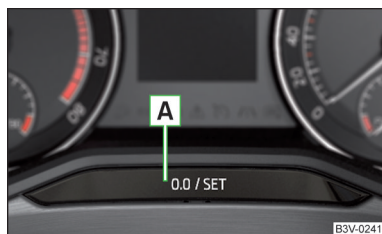

Fig. 39
› Press button **A** » Fig. 39 on page 49.
- › Press and hold the button **A** » Fig. 39 until the time is shown in the display.